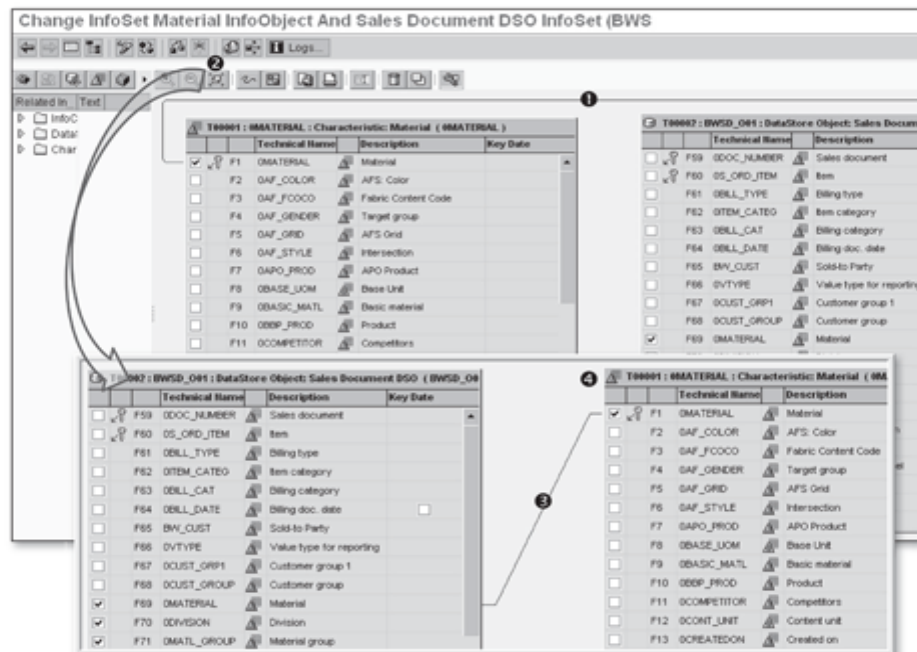

Figure 6.28 InfoSet Editing: Auto Arrange Facility
The Change InfoSet screen appears (Figure 6.28).
As you can see in ❶ of Figure 6.28, the join between two source objects isn't properly visible. Click on the Auto Arrange icon  (❷). The resulting screen is shown in the lower part of Figure 6.28, where you can view the join properly (❸). In the process, you may also observe that before executing Auto Arrange, source object T00001 on the left side of the screen has moved to the right, and the source object T00002 has moved to the left of the screen.